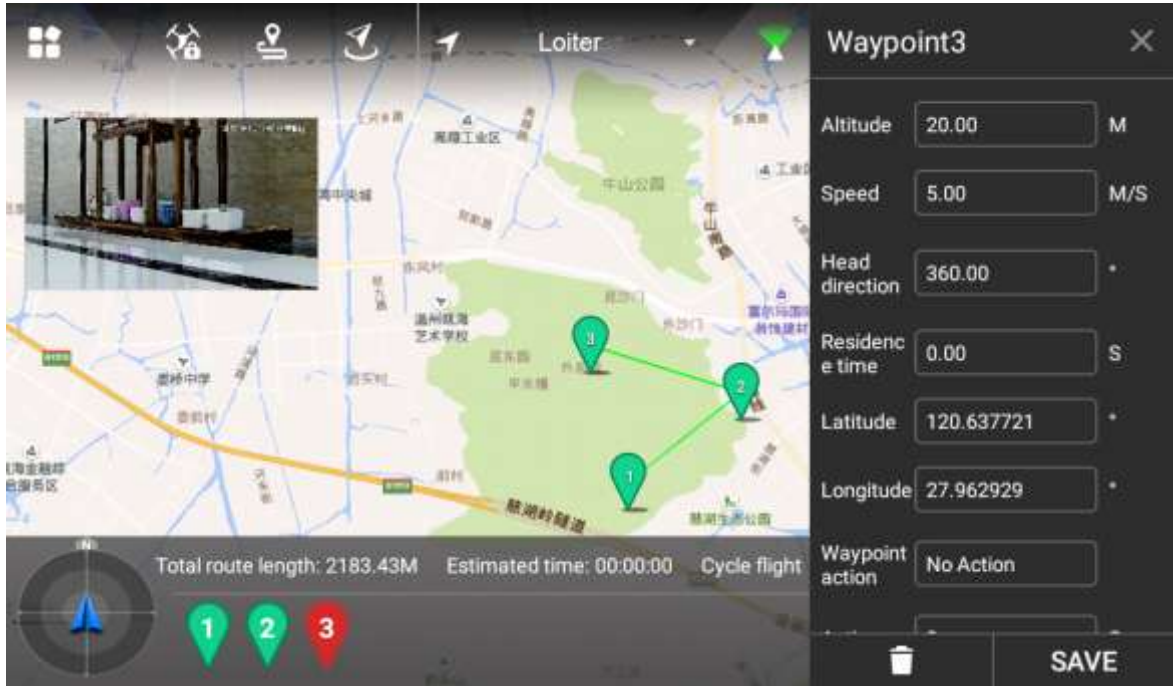

Figure 4-17
Step 3 Click waypoint and it will become red. Waypoint setting interface will display on the right of the interface, as shown in Figure 4-17.